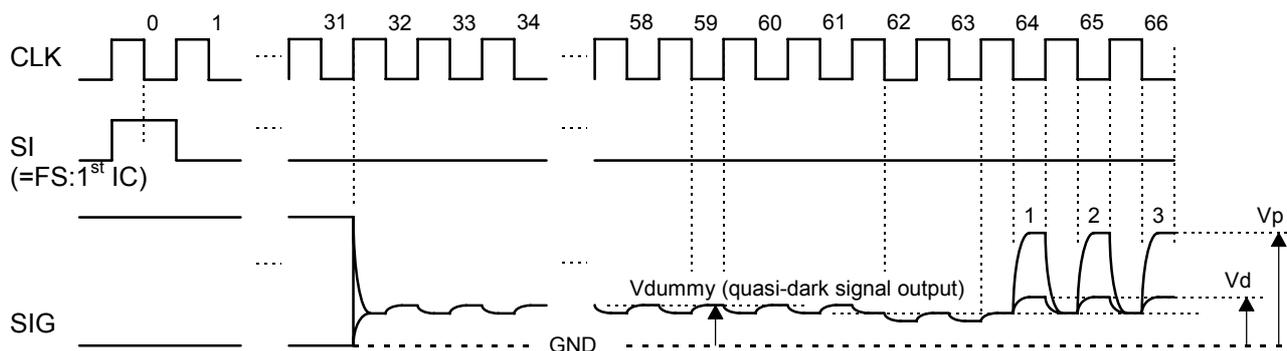

Figure 2e
- Vdummy: Average of output values of 32nd to 61st clock pulses in first IC mode (see Figure 2e)